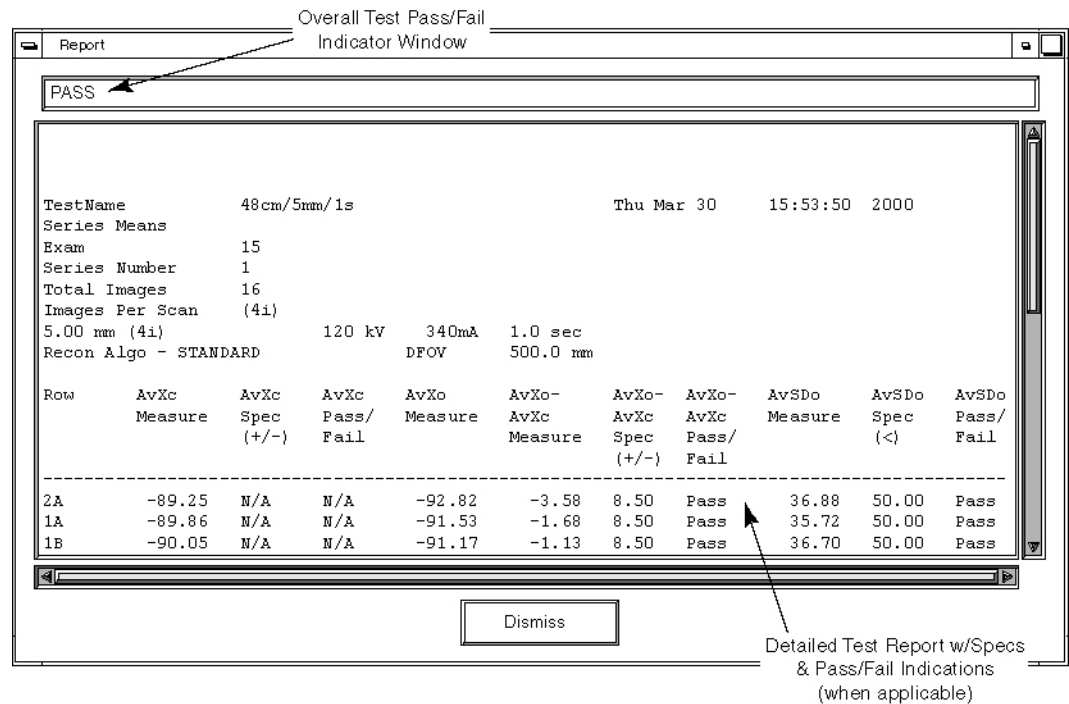

Figure 6-3 Image Analysis Tool User Interface - Test Results Report Window
- a.) Verify the Overall Test Pass/Fail Indicator Window of the Report display indicates PASS. (See Figure 6-3, on page 219 \(Pro 16\) or Table6-4 \(LS 16, Ultra, Plus, RT\).)